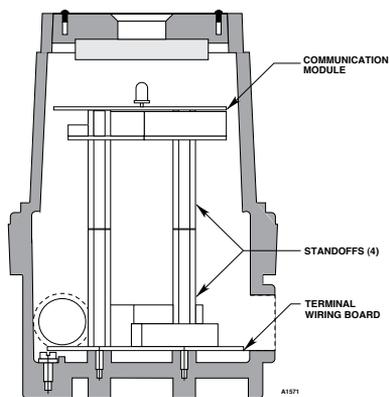

Figure 3-50—Printed Circuit Boards in Universal DCU
2. A communication module mounted above the terminal wiring board using the standoffs provided. See Figure 3-50.
- Connect all external wiring to the terminal wiring board inside the DCU (if not already completed). Re-assemble the DCUEX as described in the "Wiring" section. When completed, it should look similar to the DCU as shown in Figure 3-50.